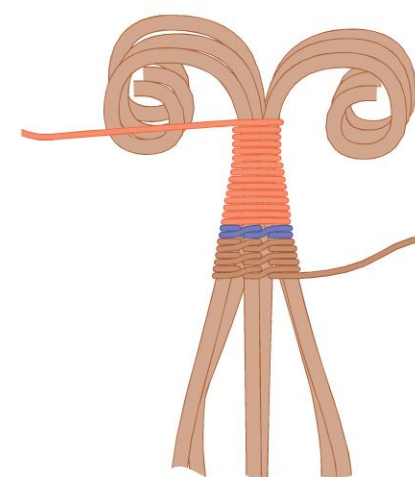

figure 8
- 1 5** Cut 5' (1.5 m) of 26-gauge wire. Coil the looped frame wires together ten to fourteen times until there's enough space between the frame wires to weave (Figure 8—red wire). At this point, the coiled base wire tails from Steps 2–4 can be trimmed. If necessary, pull each wire tail to ensure the coil is tight before trimming.
- 1 6** Coil one time around a frame wire. Don't bring the wire underneath the next frame wire as normally done in Weave Pattern 1 but rather bring the wire over the top of the next frame wire, then coil around the next frame wire once, then coil around the next frame wire once (Figure 8—blue wire).
- 1 7** Continue coiling around each frame wire one time, continuously working your way around the pendant (Figure 8—brown wire). As you weave around the frame, be sure to check the alignment of the wires, as pulling on the weaving wire can misalign the frame wires. If they became misaligned, use chain-nose pliers to gently bend them back into alignment.